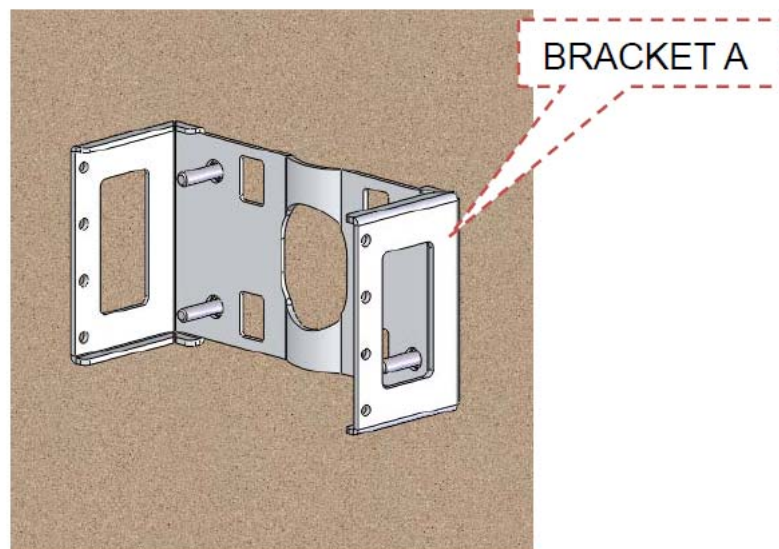

Figure 27
Step 3 Align the holes on the bracket A with the expansion bolt, as shown in Figure 27